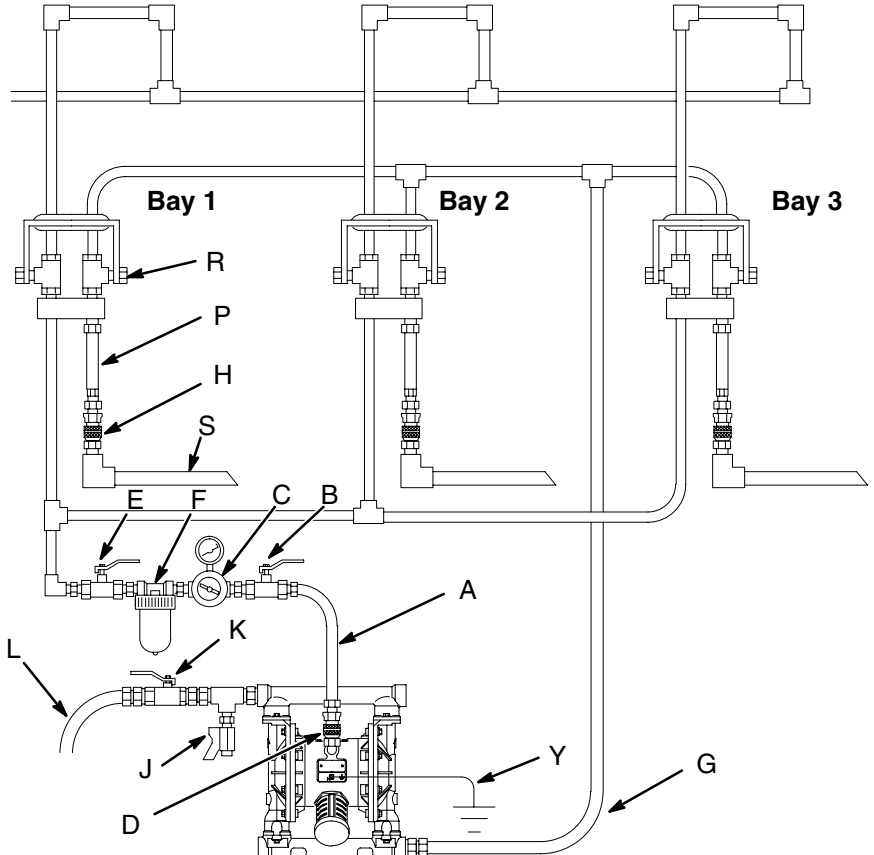

Fig. 3
KEY FOR FIG. 3
6. For the Gear Oil Evacuation System, install a control valve (R) and an appropriate wand (S). See Fig. 3.